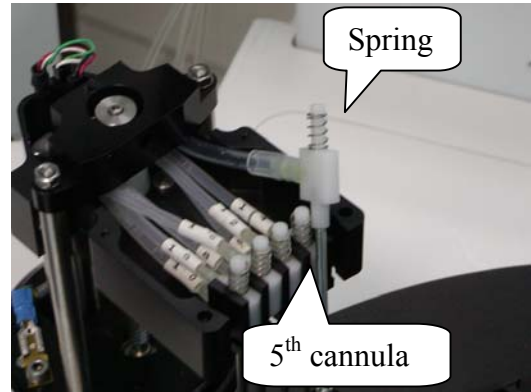

Fig. 3
4. Remove the cannula that contains the Tip (the 5th cannula) and the spring (Fig. 3).